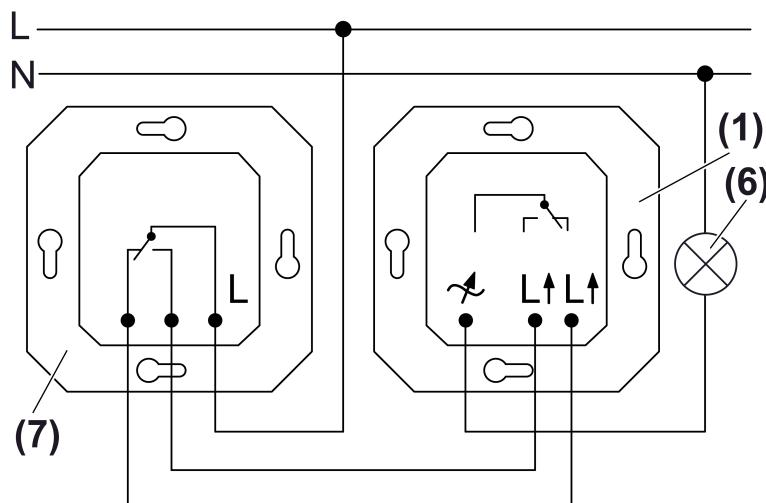

Figure 3: Changeover switch
- Connect the control unit (1), changeover switch (7) and lamp (6) according to the connection diagram (figure 3).